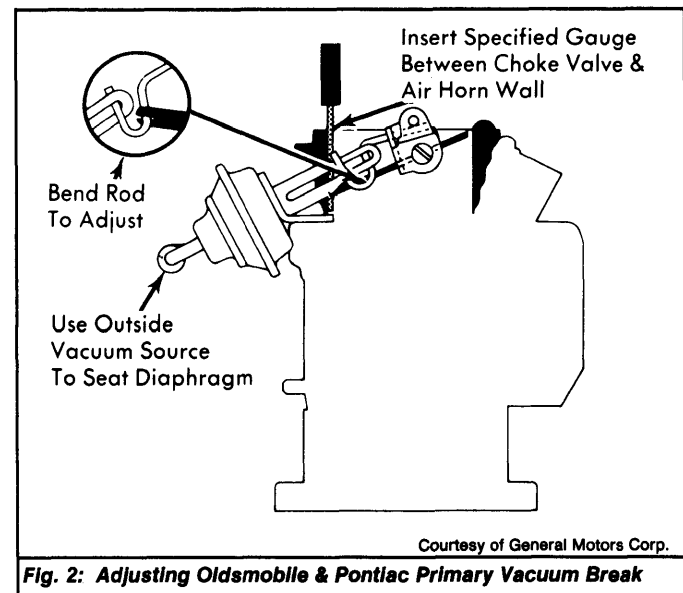

Fig. 2: Adjusting Oldsmobile & Pontiac Primary Vacuum Break
1) Use outside vacuum source and apply enough vacuum to seat diaphragm. See Fig. 2 or 3. Diaphragm plunger should be IN and seated.